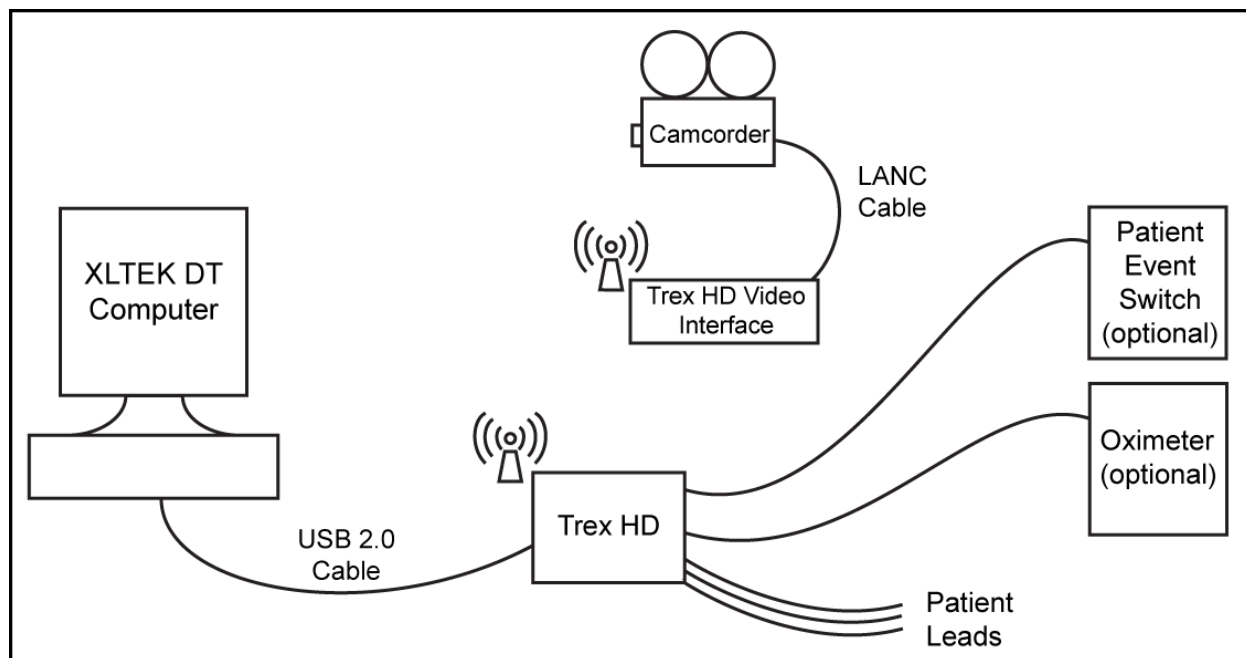

Figure 3: Trex HD and Video Hardware Connections for Device Operation
4. Connect additional external devices as required (Patient Event Switch, Pulse Oximeter, Photic Stimulator) to the Trex HD (see Figure 3).